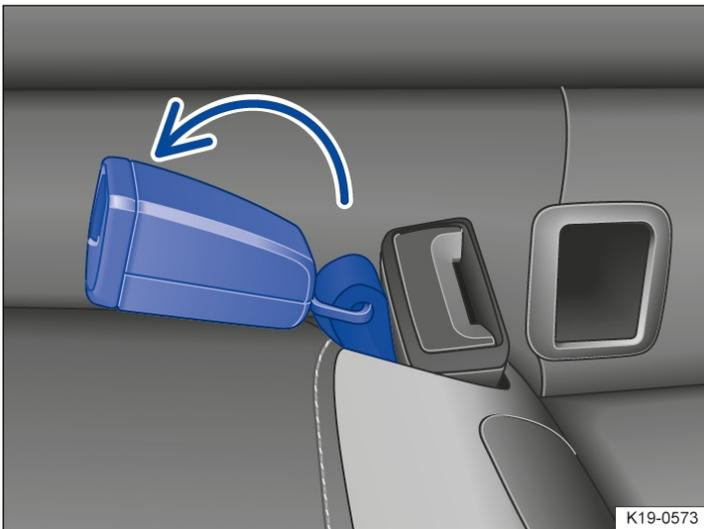

Fig. 1 Middle seat: folding down belt buckle.
- Fold the belt buckle of the middle seat inwards onto the seat cushion → Fig. 1.